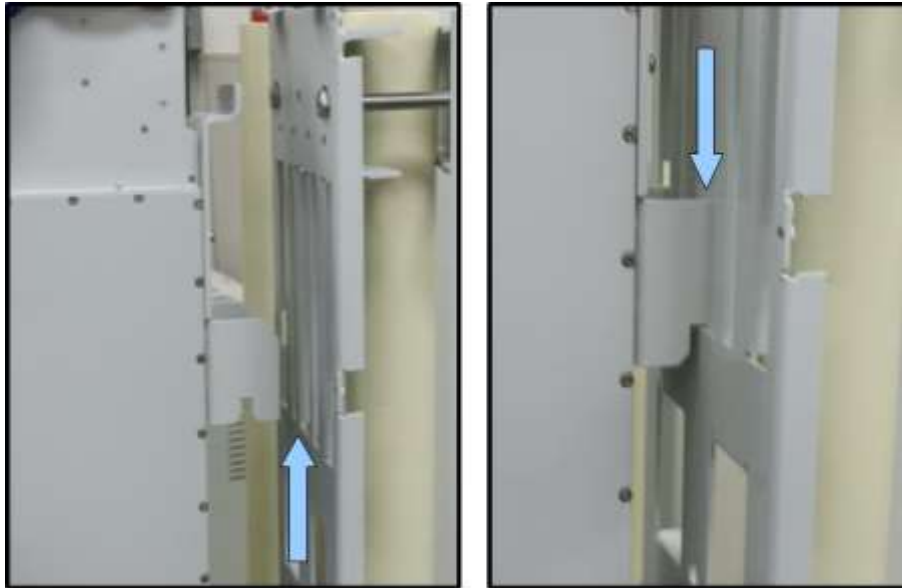

Figure 4-9. Secure Enclosure To the Side Mounting Bracket
2. Grasp the Remote Unit at the top and bottom of the casing and carefully slide the top two hooks onto the mounting panel, **Figure 4-9**, followed by the lower hooks and allow the Unit to slide down into place.